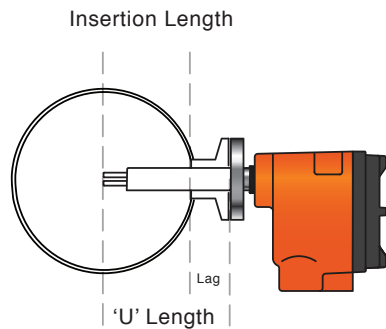

Figure 8 - Insertion 'U' Length (Flanged)
The CLASSIC 800 is a flow, point level, interface and temperature sensing device. The sensor tip must be inserted in the proper location and to the proper depth in order to accurately react to your process conditions. The following information, including Figures 8 through 13, should be considered as text book examples for proper installation.
**Notes:** Most pipe connections for instrumentation are a variation of a butt-weld-type such as the Weldolet or Thredolet. The length of this connection must be added to the pipe diameter when determining the required insertion length for the sensor. The Kayden literature refers to this “insertion length” dimension as the “U” length, Figures 8 & 9.